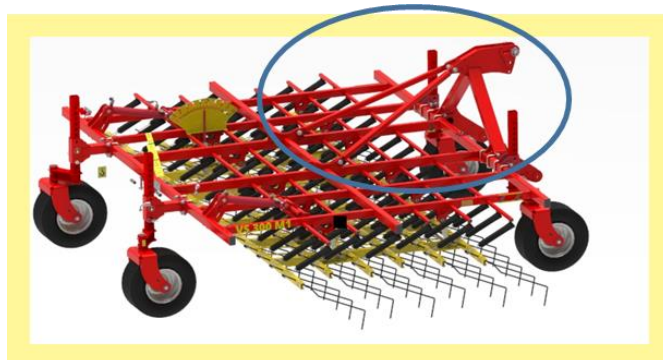

Figure 14: Installation of the headstock and the tension struts
- 7) The headstock and the tension struts must now be installed on the rear side of the Tined Weeder Pro, as shown in Figure 14. The tightening torques are